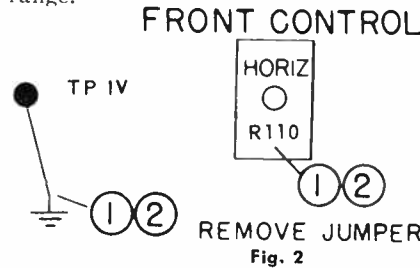

Fig. 2
**STEP 1:** Adjust horizontal hold control R110 in Fig. 2. Short jumper from TP IV to ground. Adjust horizontal hold control R110 to the center of its range.